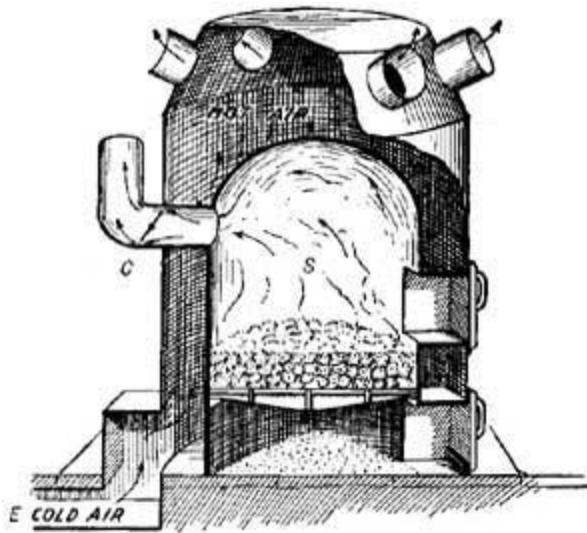

FIG. 13.—A furnace. Pipes conduct hot air to the rooms.
9. Furnaces. *Hot Air.* The labor involved in the care of numerous stoves is considerable, and hence the advent of a central heating stove, or furnace, was a great saving in strength and fuel. A furnace is a stove arranged as in Figure 13. The stove *S*, like all other stoves, has an inlet for air and an outlet *C* for smoke; but in addition, it has built around it a chamber in which air circulates and is warmed. The air warmed by the stove is forced upward by cold air which enters from outside. For example, cold air constantly